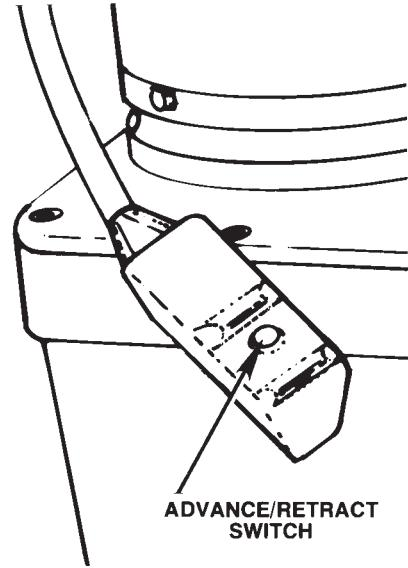

FIGURE 2
2. Activate the pump and cylinder(s) by pressing the Advance/Retract button on the remote switch (see Figure 2). Fully extend and retract the cylinder(s) several times to expel any air in the hydraulic system.